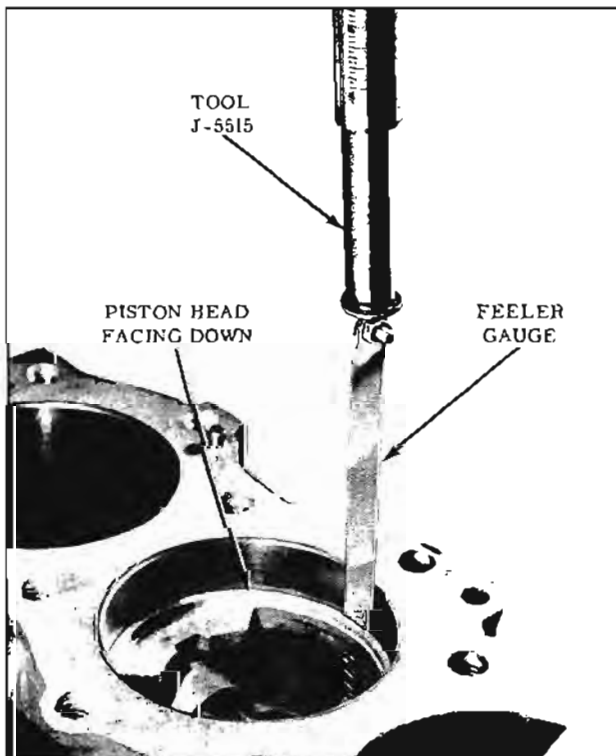

Fig. 8-128 Checking Piston Clearance
1. Place a strip of .0015" feeler gauge against the upper side of the bore, at 90° to the normal piston pin location. Attach scale J-5515 to feeler gauge. (Fig. 8-128)